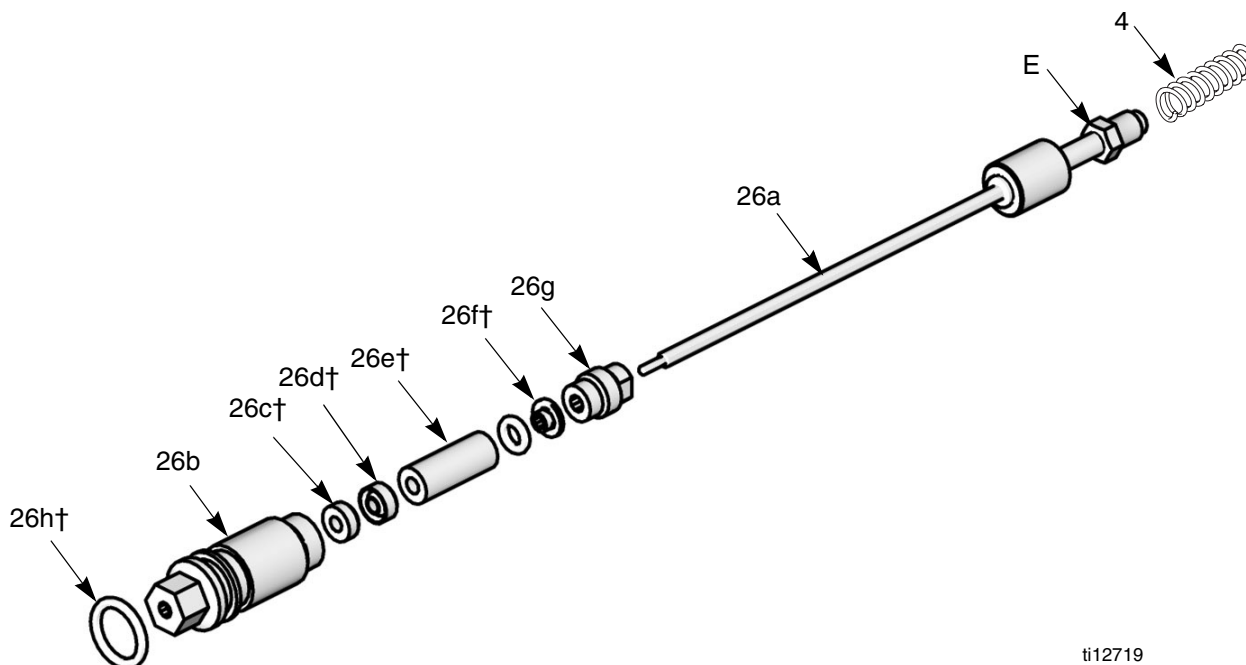

Fig. 15. Packing Rod
1. Place the packing nut (26g) and seal (26f†) on the fluid rod (26a). Flats on the packing nut must face the back of the fluid rod. The seal o-ring must face away from the packing nut. See FIG. 15.
2. Fill the inner cavity of the spacer (26e†) with dielectric grease (40). Place the spacer on the fluid rod (26a) in the direction shown. Generously apply dielectric grease to the outside of the spacer.
6. Install the spring (4) against the nut (E) as shown.
7. Install the packing rod assembly (26) into the gun barrel. Using the multi-tool (37), tighten the assembly until just snug.
8. Install the trigger (30) and screws (8).